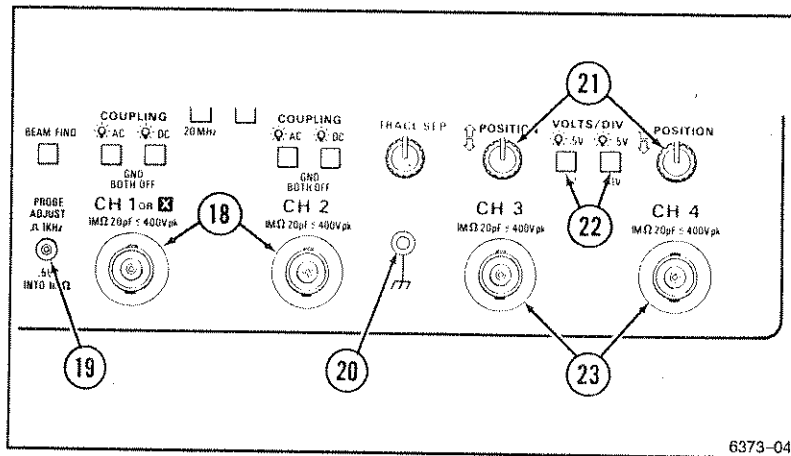

Figure 2-3. Vertical connectors and CH 3 and CH 4 controls.
Refer to Figure 2-3 for location of items 18 through 23.
- ⑱ **CH 1 OR X and CH 2 Input Connectors**—Connect signals to the inputs of Channel 1 and Channel 2 vertical attenuators.